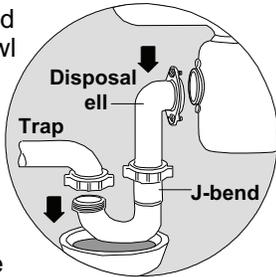

FIG. 1
1. Remove disposal ell and J-bend from disposal and trap. Use a bowl to catch trap water. (See Fig. 1)